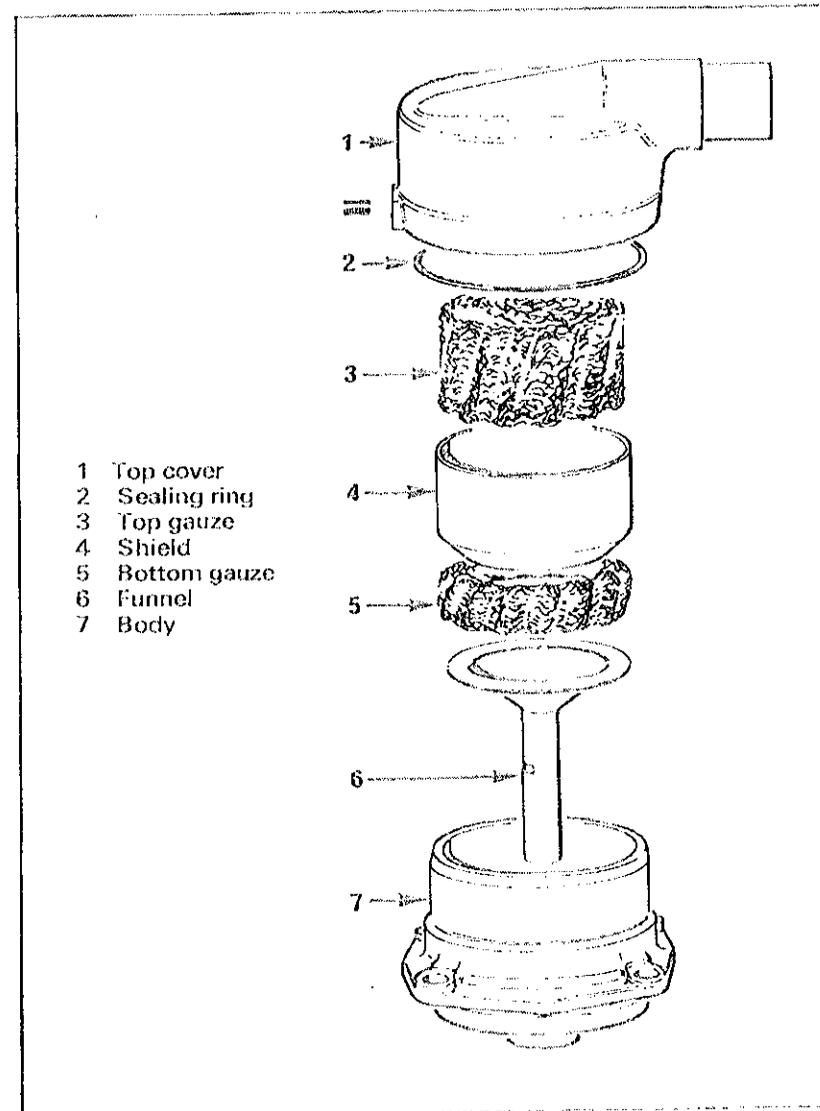

Fig. 27 Double gauze engine breather
- 1 Make suitable marks on the top cover and body for assembly purposes. Release the screw fitted in the side of the top cover and remove the cover (see fig. 27).